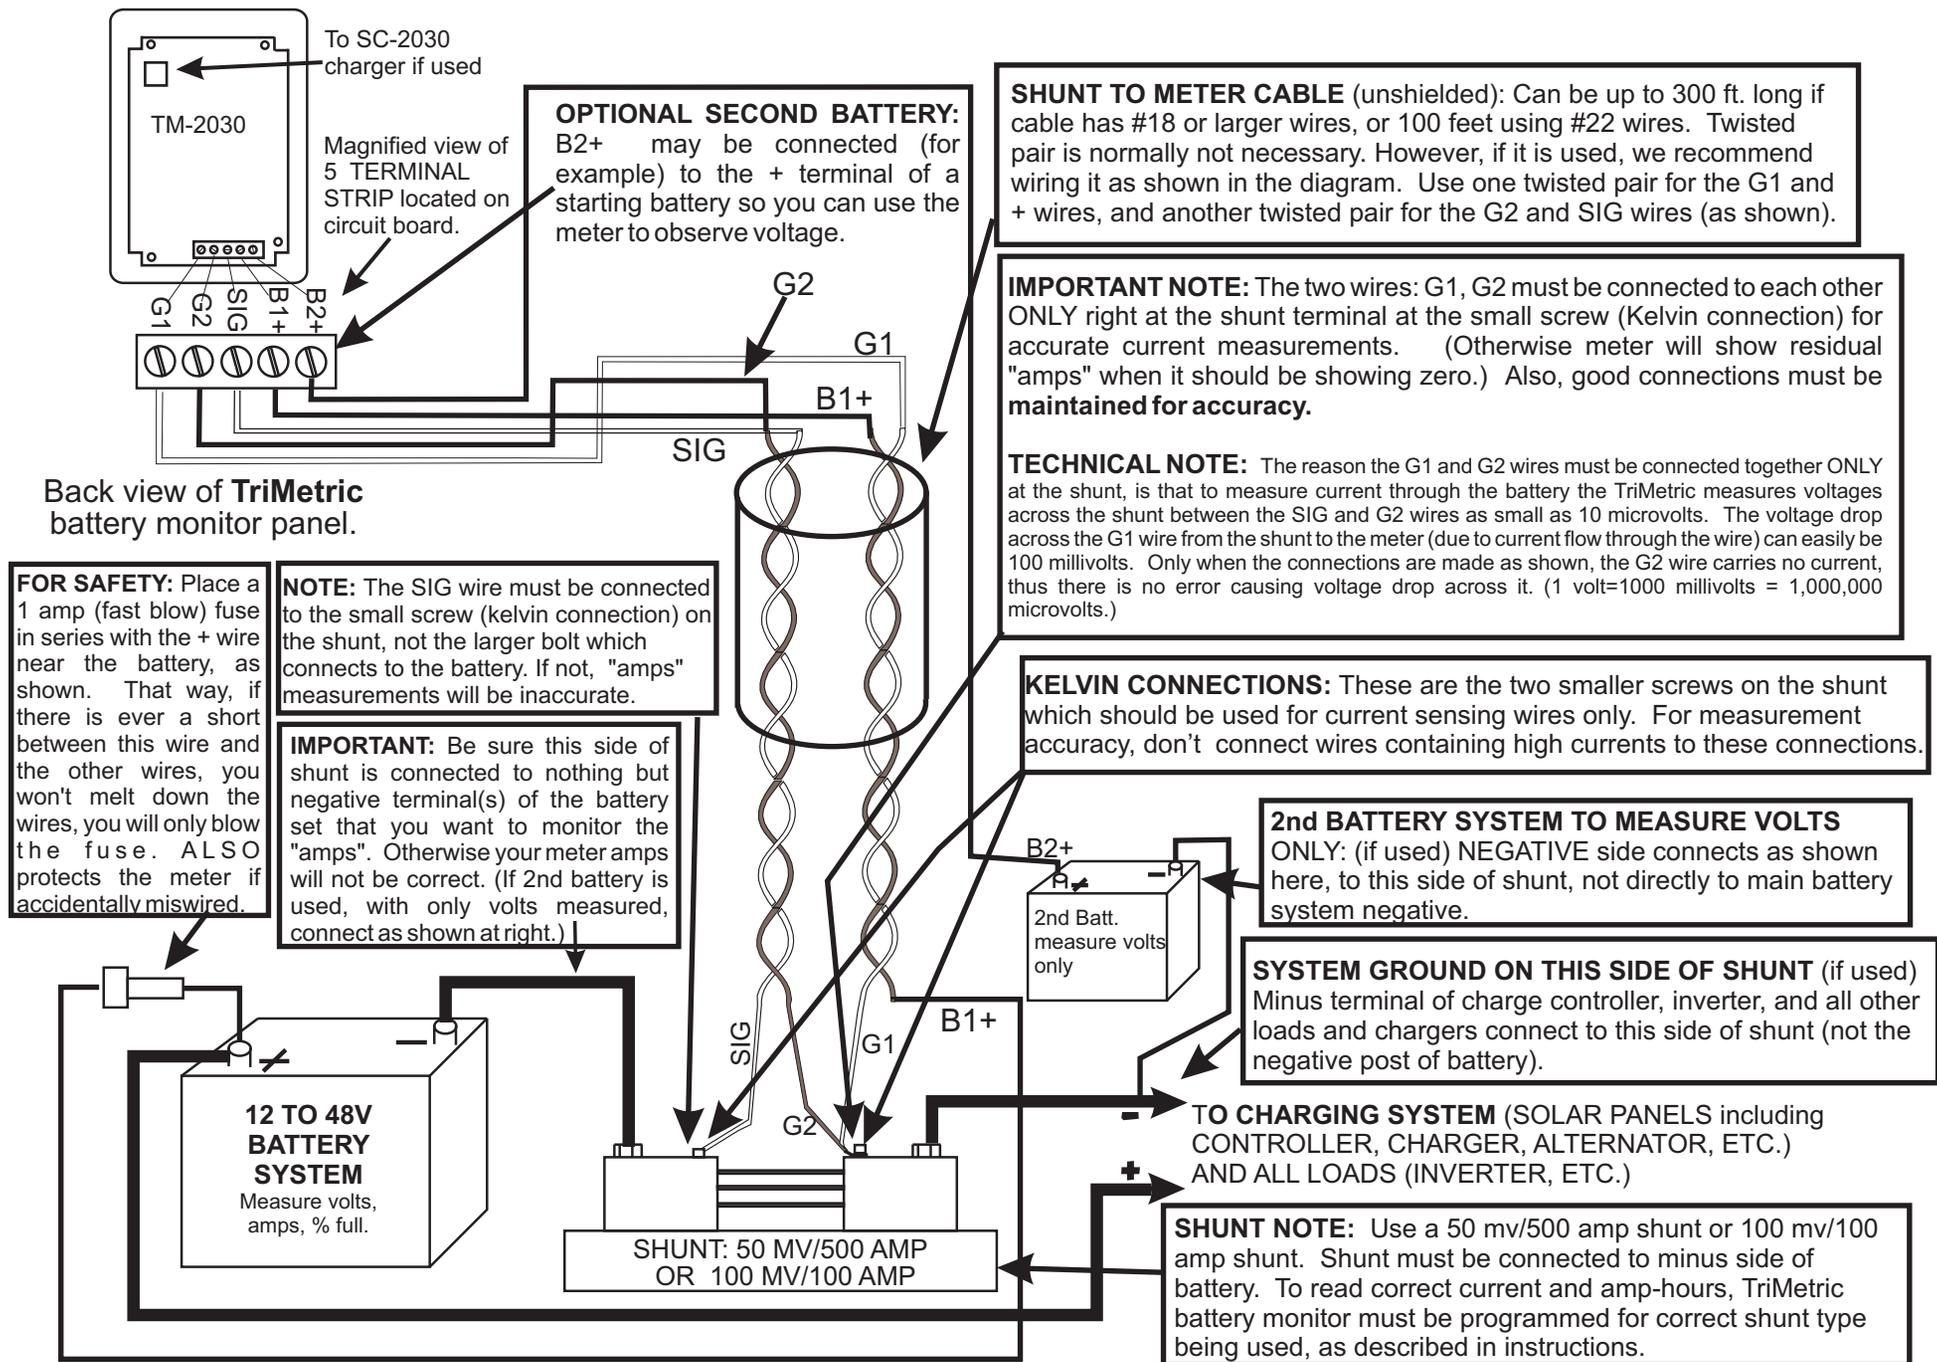

FIGURE 2: TM-2030 TriMetric Battery Monitor Connections
- First connect both the **G1** and **G2** wires to the Kelvin “load side” terminal (on the shunt *farthest* from the minus battery terminal lead,) as also shown in Figure 2. These two wires must join together *only* right at this terminal.
STEP 6: Use a small screwdriver to loosen the screws on the connector and insert each wire in a separate connector hole using the chart above and/or wiring diagram (Figure 2) to determine which wire goes to which terminal, and tighten each screw to hold the wires securely, taking care that there is no danger of shorts between the wires.
Make a final check of the wiring. Install meter in box and finally insert the 1A fuse(s) in the battery fuse holder(s). Digits should light up on the meter. **If fuse blows, wiring is probably wrong: before replacing fuse:** carefully check that B1+ wire from battery and fuse goes to proper “B1+” terminal on the meter. (See wiring, Figure 2)